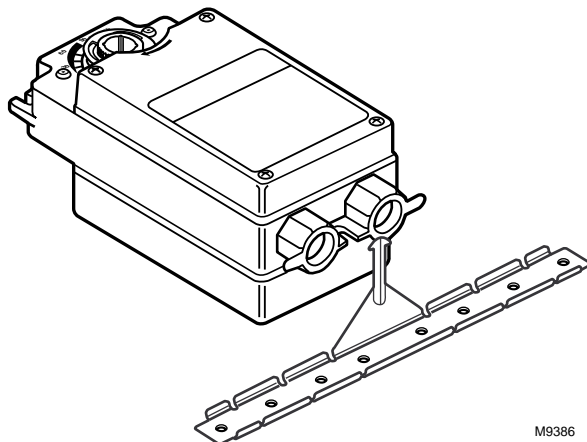

Fig. 2. Installing mounting bracket on ML8185 Direct Coupled Actuator.
- 3 Install the mounting bracket (see Fig. 2) and adjust it to support the actuator at the correct height. Mark the screw holes for installing the mounting bracket on the damper housing.